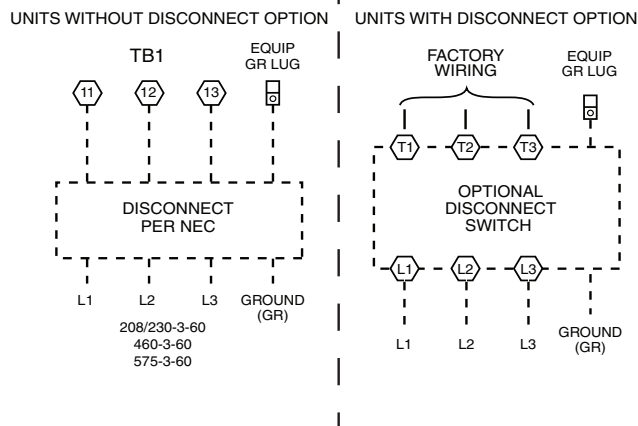

Fig. 30 — Power Wiring Connections
Size wire based on MCA (Minimum Circuit Amps) on the unit informative plate. See Fig. 30 for power wiring connections to the unit power terminal block and equipment ground. Maximum wire size is 2/0 AWG per pole.
3. Install power lines to terminal connections as shown in Fig. 30.